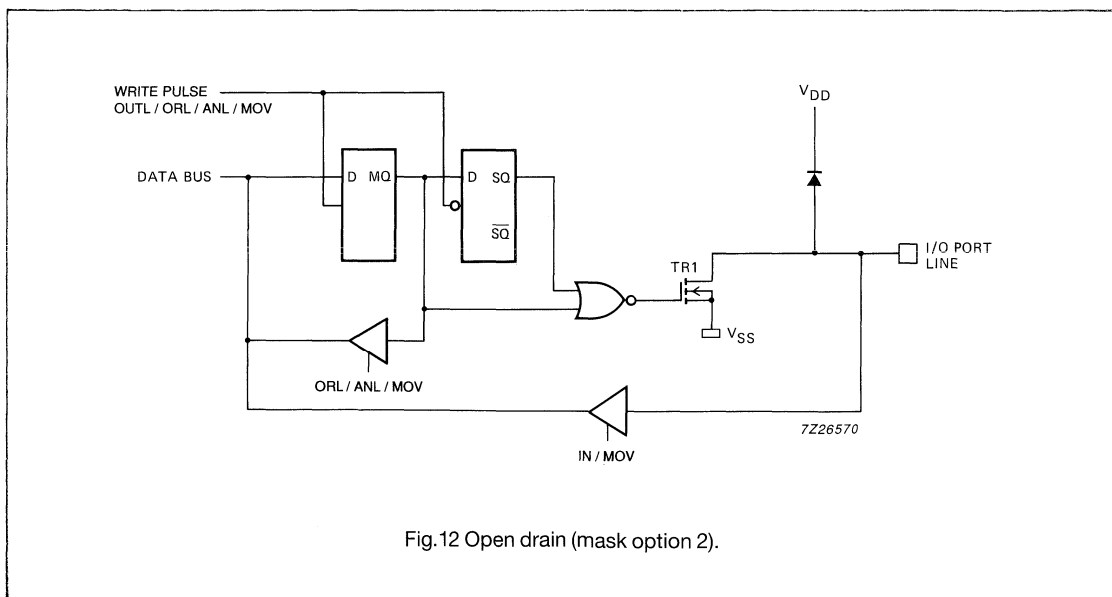

Fig. 12 Open drain (mask option 2).
- Option 2 Open Drain: quasi-bidirectional I/O with only an N-channel open drain output. Application as an output requires the connection of an external pull-up resistor (Fig. 12). If unused, an option 2 output should be tied to VSS to prevent undesirable current flow through input stages.